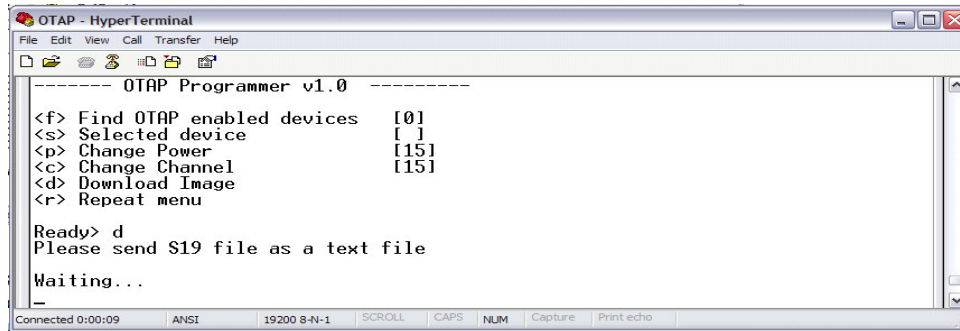

Figure 58. OTAP Download Image Window
5. As shown in Figure 58, press 'd' to download the Wireless UART image to the OTAP-Programmer board.